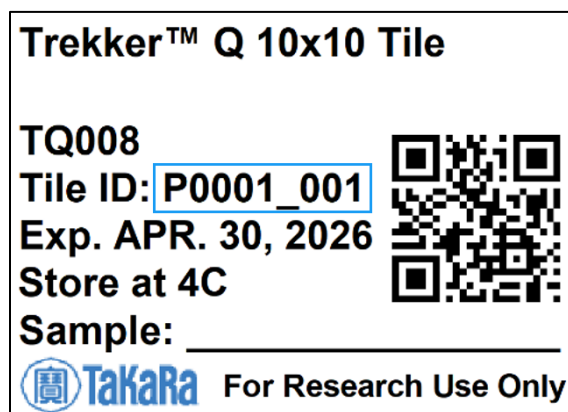

Figure 7. Example Trekker Tile label to identify the tile ID. The tile ID, P0001_001, is indicated by the blue box.
3. Record the tile ID (e.g., P0001_001) of the Trekker tile as shown in Figure 7.